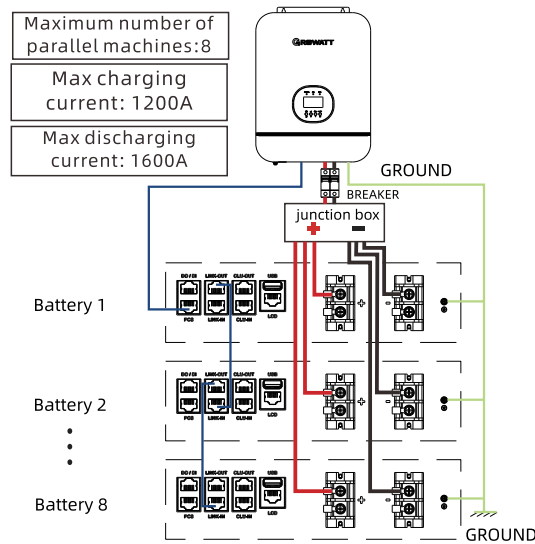

Figure 15: Installation Diagram for Power Expansion
- 2) Refer to Figure 15 for power cable wiring.